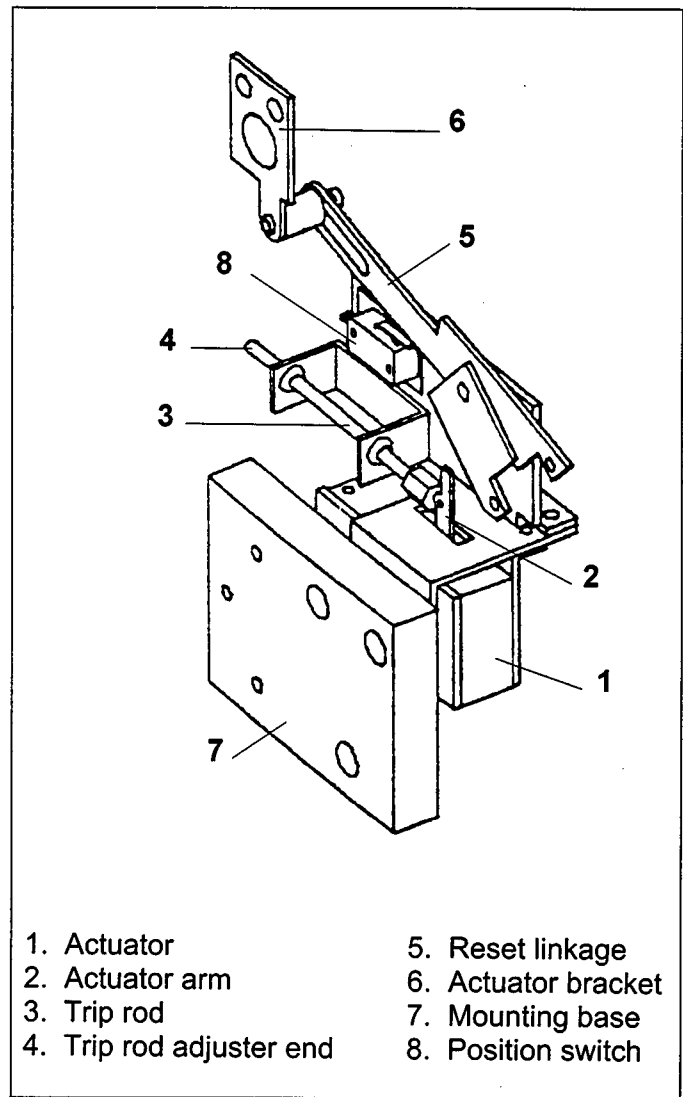
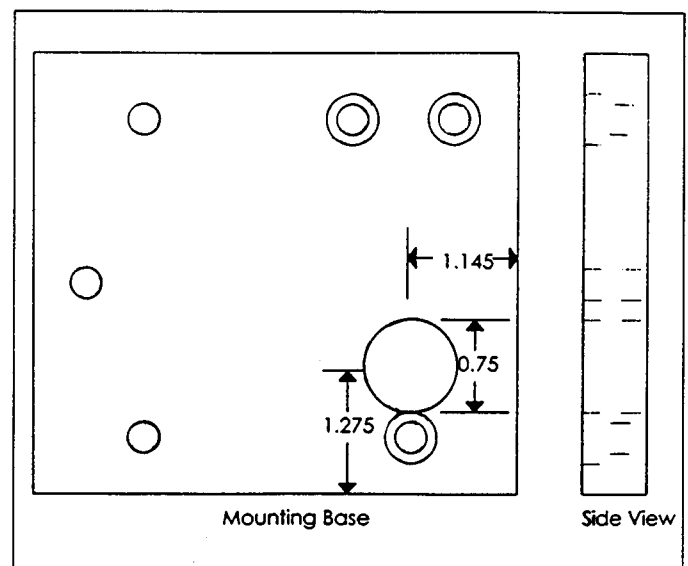

Fig. 3-3. Flux Shifter
Fig. 3-5. Mounting Base Adjustment
1. Drill a hole  $\frac{3}{4}$ " diameter, into the mounting base (Fig. 3-3). This will provide the necessary clearance for the bracket. The hole locations are given in Fig. 3-5.